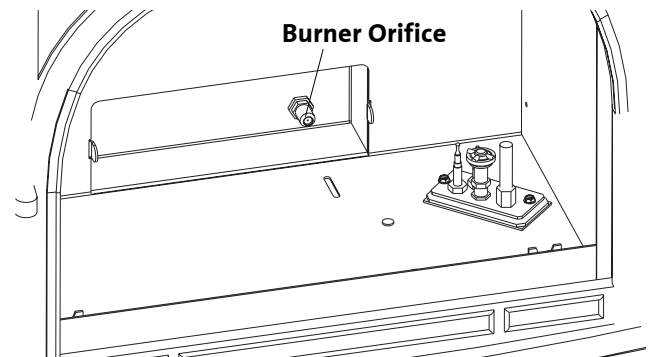

Figure 24. Change the Burner Orifice.
8. Change the Main Burner Orifice. See fig. 24. Using a 1/2" open ended wrench or deep-well socket remove the burner orifice from its brass elbow housing and replace with the appropriate orifice supplied in the kit.